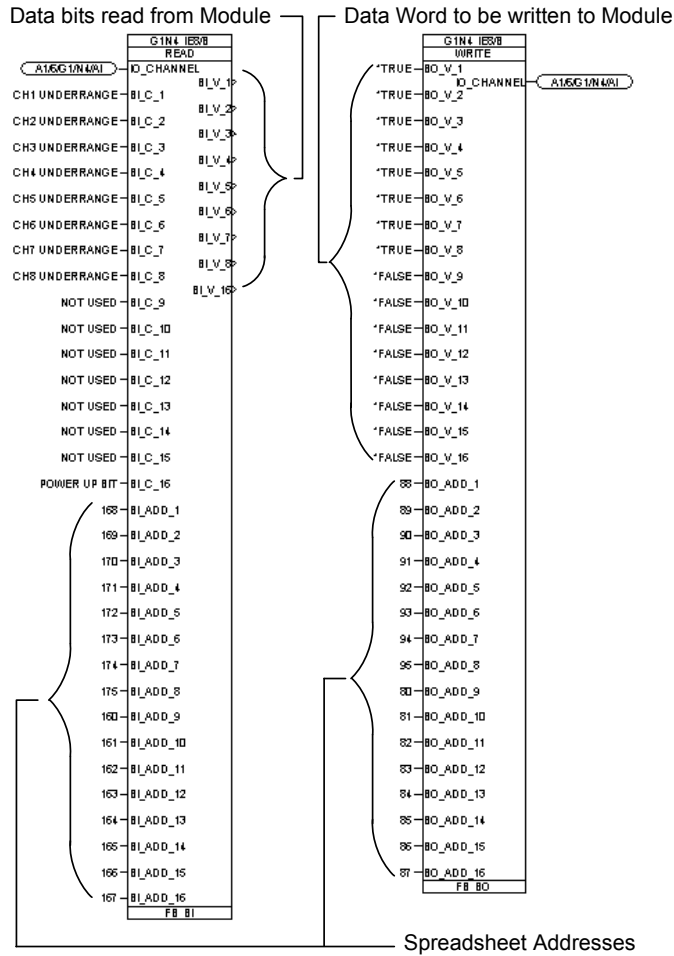

Figure 6-21. Example of 1794-IE8/B Read and Write GAP Blocks
In this example, this write block is set up with Range Select bits for all channels set to 0-21mA. The read block is set up to be able to read the status of the underrange bits for all channels and the Power Up bit (PU). See Figure 6-21 for example of 1794-IE8/B Read and Write GAP blocks.